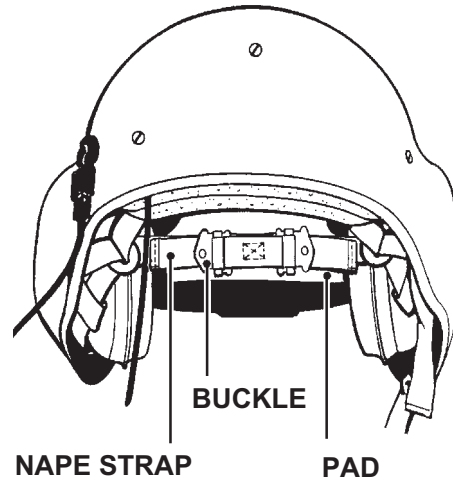

Figure 2-19. Nape Strap
7. Referring to Figure 2-19, adjust the nape strap pad for a snug fit by tightening or loosening the nape straps. Check the fit of the pad by inserting two fingers (index and middle) between the pad and the wearer's head. The fingers should just fit.